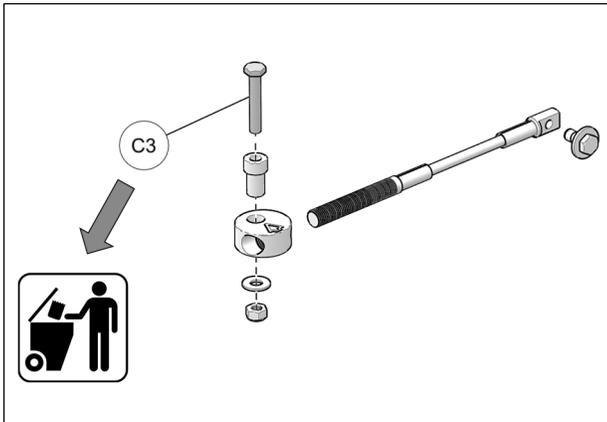

Fig. 21
11. Discard bolts (C3) included in Steering limiter cable kits. They are not needed for installation on this particular vehicle model. Fig. 21